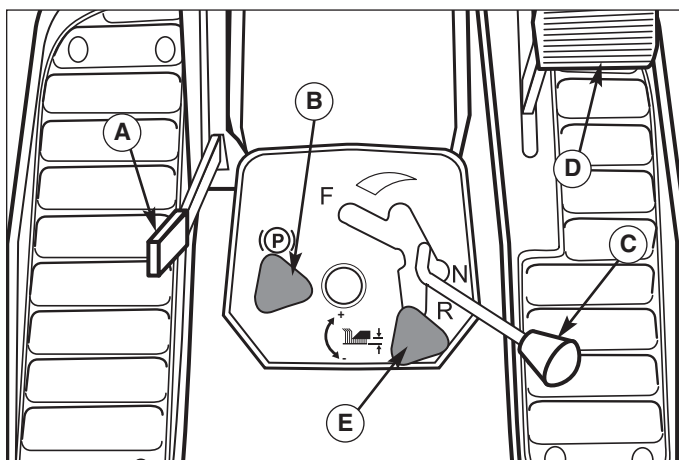

Figure 27. Controls
4. Use the Dial-A-Cut™ Control (E, Figure 27) and place mower in mid-cut position by aligning front edge of mower lift lever (A) with number 2 or 3 on quadrant scale. Make sure mower lift lever is in down position.